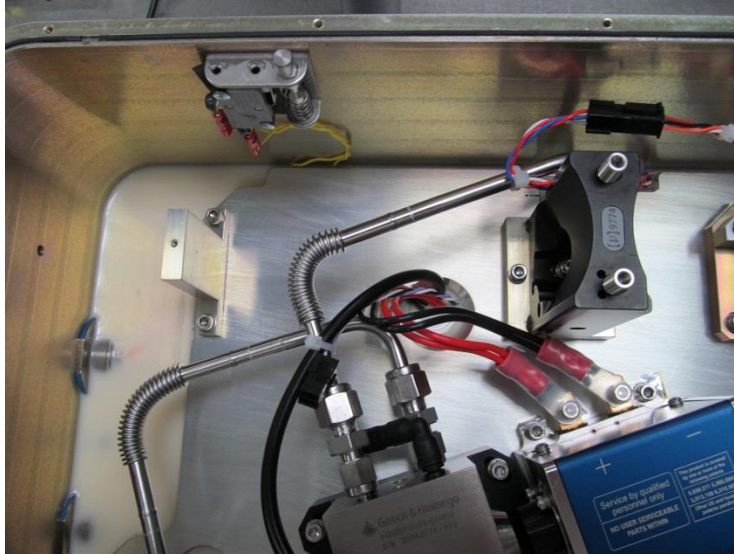

Figure 2-28: Location of 2216 on Mount
17. Verify the beam hits the center of the SHG crystal. See Figure 2-28 for ideal alignment. Base screws can be loosened to center the beam through the SHG crystal.